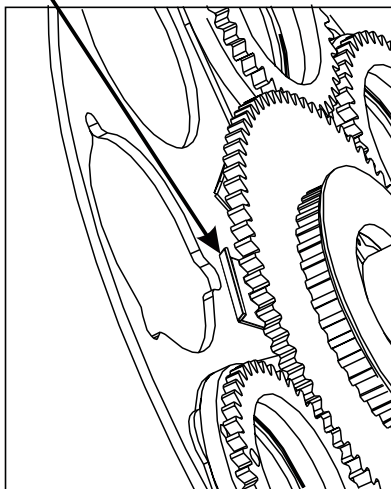

Fig.10
5. Move the ring over the gobo away (fig.10), so you can take out the gobo.
8. Make sure the gobo plate is installed under the pressure plate (C).